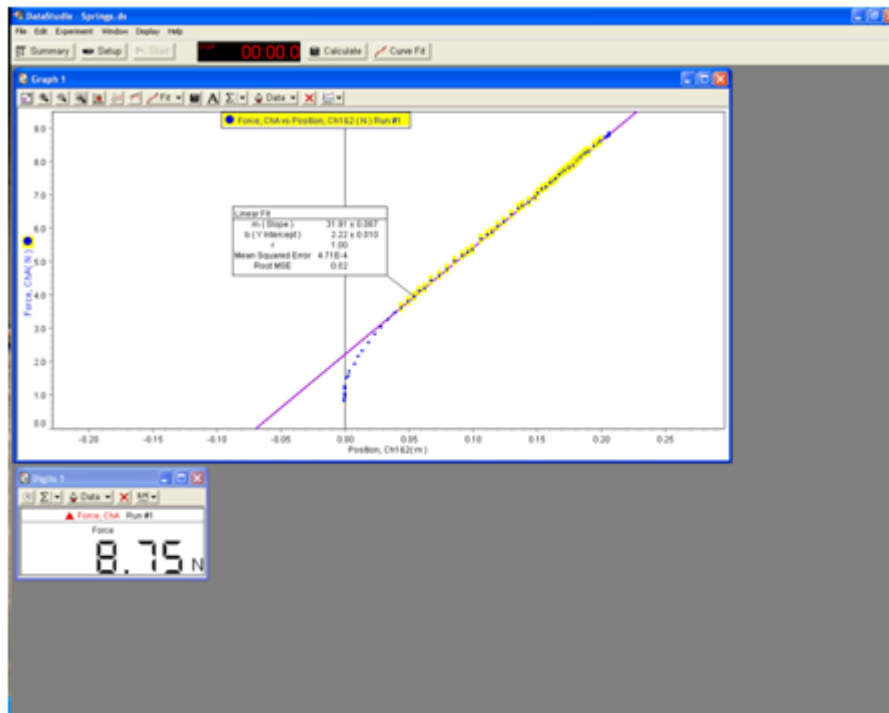

Figure 4: A sample of experiment file in DataStudio
- 5 Apply the linear fit to the good part of your recording (see fig. 4) which presents elastic force vs displacement graph. The slope of this line gives the spring constant.